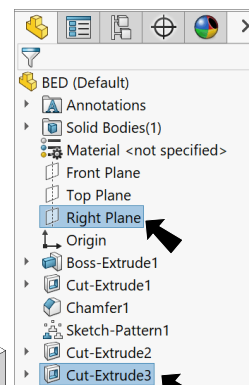

Fig. 40
Step 1. **Ctrl click Right Plane**  and **Cut-Extrude3** in the Feature Manager to select plane and feature, **Fig. 40**.